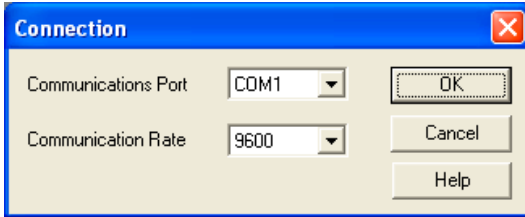

Figure 7-6
- DataView® will open and the **Connection** window will appear (see Figure 7-6).
- Click the **Configure Instrument** button and the **Connection** window will appear (see Figure 7-6).
**NOTE:** The instrument must be configured for the same communications rate specified in Figure 7-6. If it is not, then you must either select the corresponding rate or change the instruments rate.